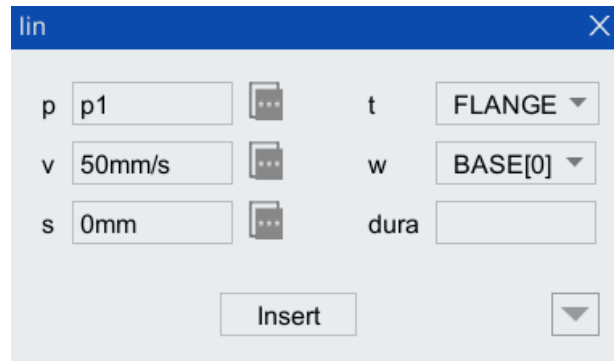

Figure 10-17 The lin instruction configuration interface
- Step1. Open a new .arl program in the program editor, click [lin] to pop up the lin configuration interface (as shown in Figure 10-17), complete the parameter configuration, and click <Insert > to generate the arc welding starting point instruction.